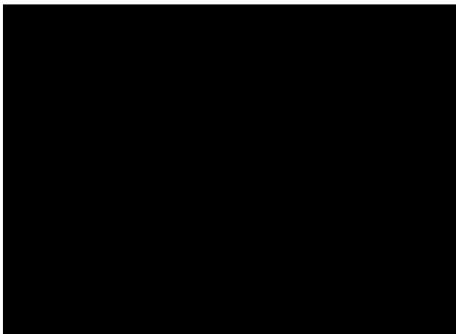

Figure 6.
- Attach the Rail to the support using the hammerhead nut. So that the hammerhead of the nut is perpendicular to the Rail., as shown in figure 6.